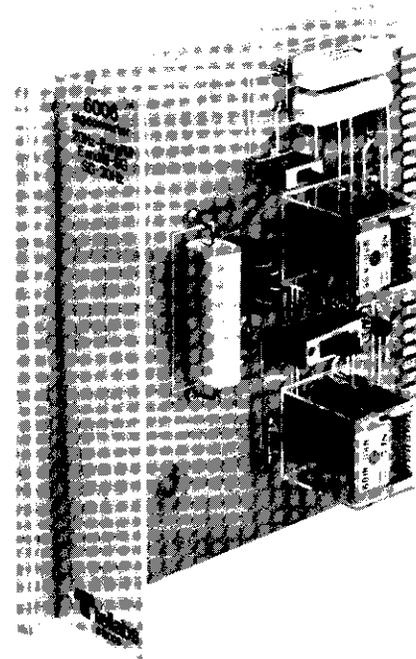

figure 1. 6006 Signaling Converter
1.01 The 6006 Signaling Converter module (figure 1) provides three modes of signaling conversion – E and M to ringing (20Hz), SG-lead to E and M, or SG-lead to ringing (20Hz) – on either 2wire or 4wire voice-frequency transmission facilities.